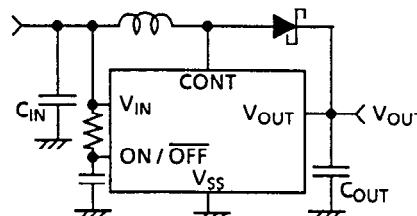

Figure 18
- When the shutdown terminal is connected to the V_{IN} terminal, confirm that the deviation of V_{IN} terminal voltage is not lower than the V_{SL} level. If the deviation is lower than that level, insert a CR filter circuit into the shutdown terminal, as shown in Figure 18. Also when the shutdown terminal is connected to the V_{OUT} terminal, the IC may not work (step-up) because of voltage drop by coil and diode at power-on. So, when using with $V_{\text{OUT}} = \text{ON/OFF}$, apply a sufficient high supply voltage.